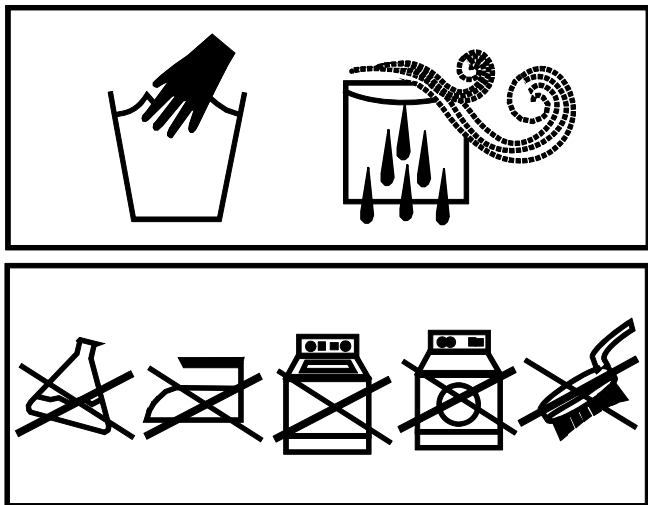

Figure 18. Cleaning Restrictions.
15. Wash all components, except ESAPI/ESBI, soft ballistic inserts and cable assembly (Figure 18).